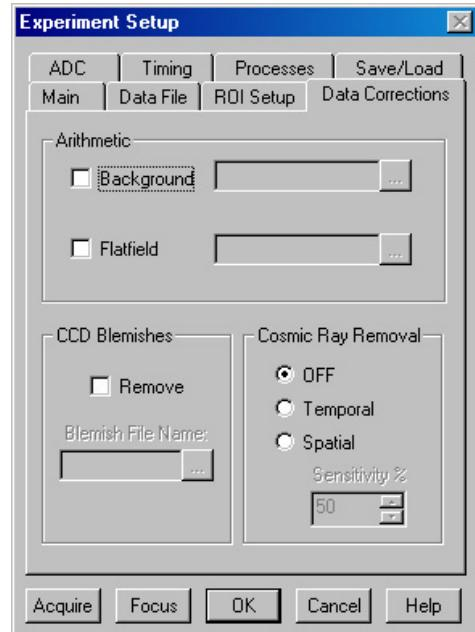

Figure 125. Data Corrections tab page
To acquire a background with the shutter open, or if the Acquire Background feature is too restrictive in some other way, a background file can be collected as a normal data file. Once the file is collected and stored, enter the filename in the Background Subtract filename box on the Experiment Setup Data Corrections tab page (see Figure 125).
2. Click on the Data Corrections tab. The Data Corrections tab page will be selected (Figure 125).
If the Acquire Flatfield feature is found to be too limiting in some way, a flatfield file can be collected as a normal data file. Once the file is collected, enter the filename in the Flatfield Correction filename box on the Experiment Setup Data Corrections tab page see (Figure 125).
2. Click on the Data Corrections tab to select the Data Corrections tab page (Figure 125).